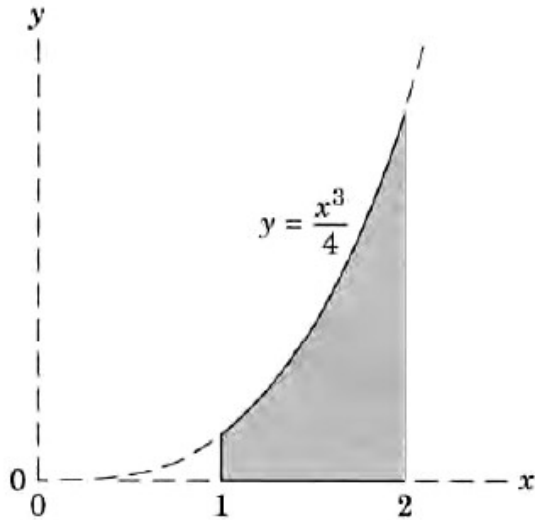

Figure 3
Q.3(b) Determine the moment of inertia of the shaded area shown in Figure 3 about y- axis. [5] 3 3